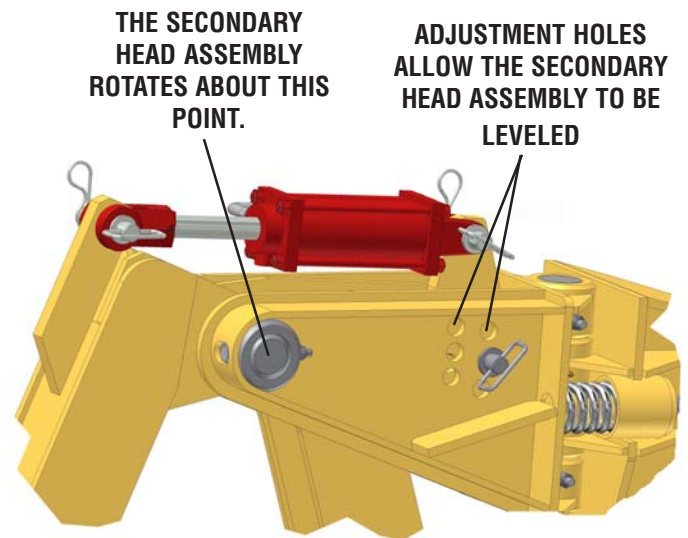

Figure 9
- The Head Assembly is adjustable to counteract the lean of the tractor and to maintain a level interface to the barrier. Inspect the barrier's lean and adjust the head by choosing an appropriate hole for the adjustment hitch pin. The carriage assembly is correctly adjusted when the bottom of the barrier is roughly parallel with the road surface. See Figure 9.